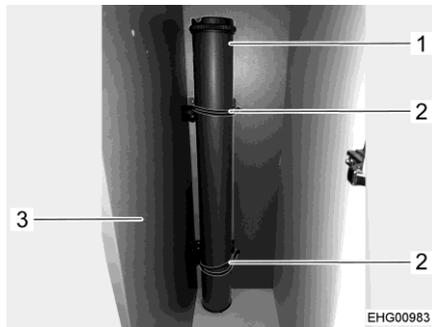

Fig. 38 Table leg (in wardrobe)
- Place the table leg (Fig. 38,1) in the wardrobe (Fig. 38,3) (behind the kitchen).
- Fasten the table leg at the top and bottom with the rubber bands (Fig. 38,2) to the holder provided.